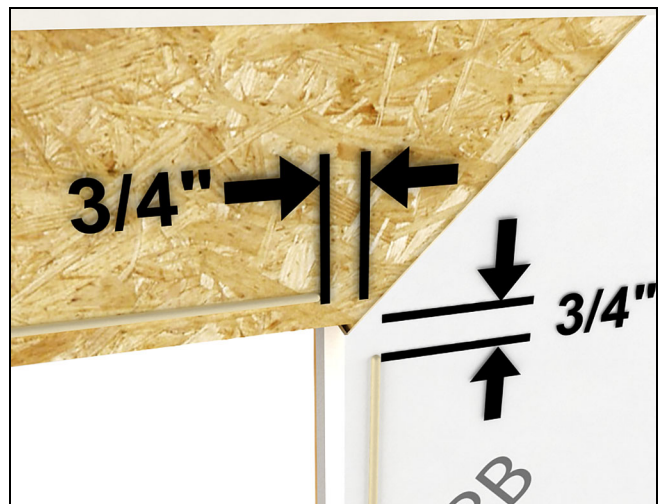

Figure 7
2. Starting in 3/4" from the side, apply 1/4" to 3/8" bead of sealant 1/2"- 3/4" across the top of the RO stopping 3/4" in from the end. Apply sealant down both sides of the window opening in the same manner. Do not apply sealant across the RO bottom. See Figure 7.